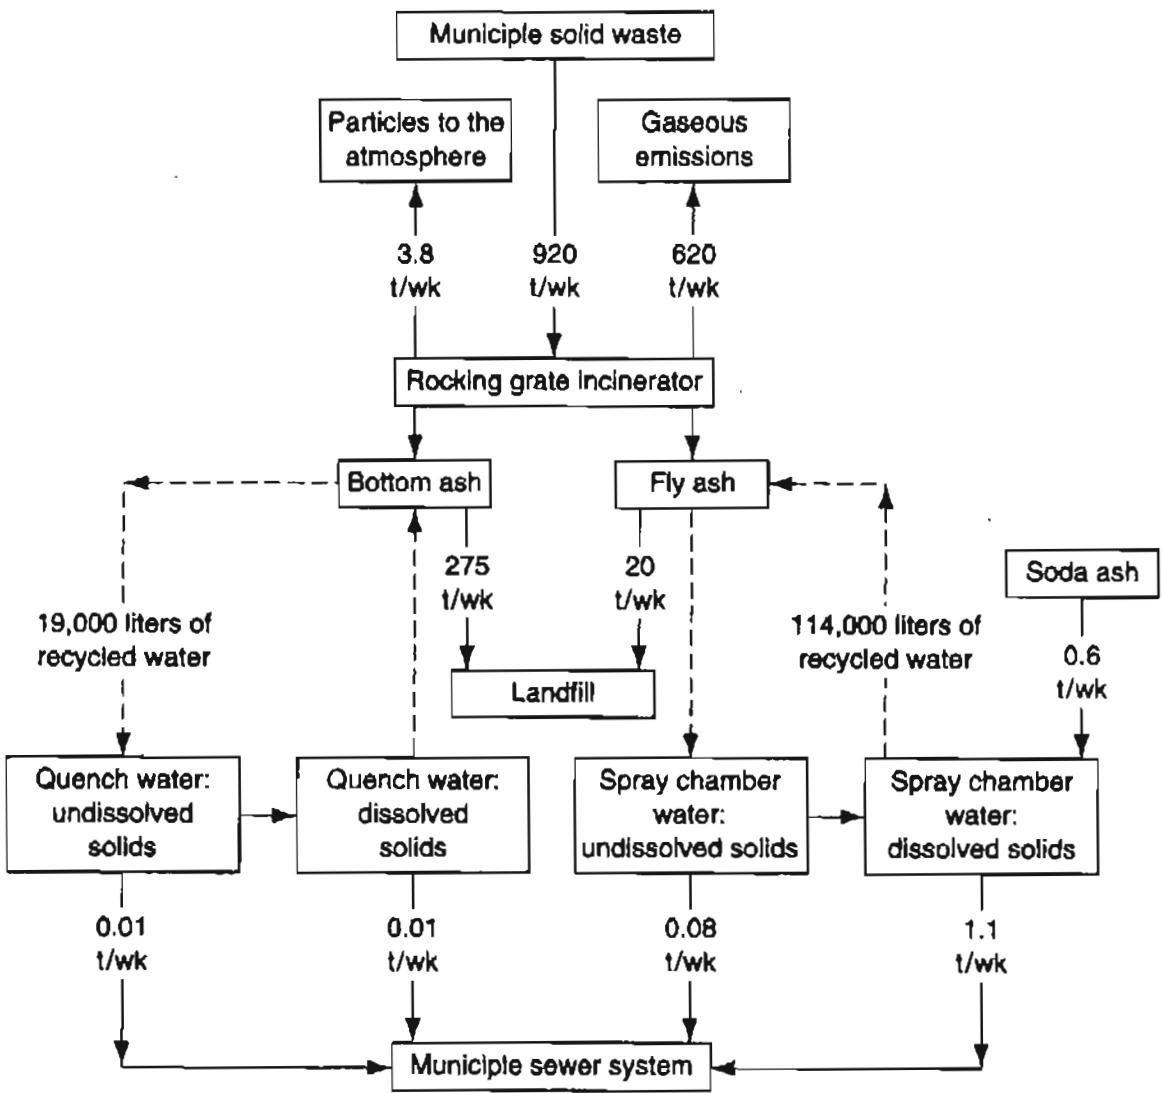

Figure P6.9
- **6.9** Examine Figure P6.9. Is the material balance satisfactory? (T/wk means tons per week)